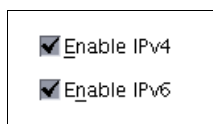

Figure 13-13 IP protocol versions
3. IPv4 is enabled by default. To enable IPv6, select **Enable IPv6**, as shown in Figure 13-13